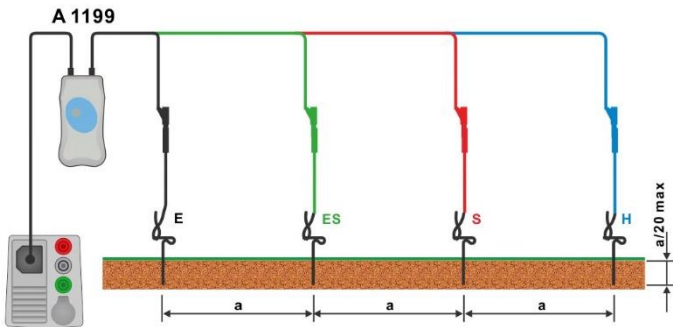

Figure 7.78: Specific earth resistance measurement
- › Connect test leads to earth probes, see **Figure 7.78**.